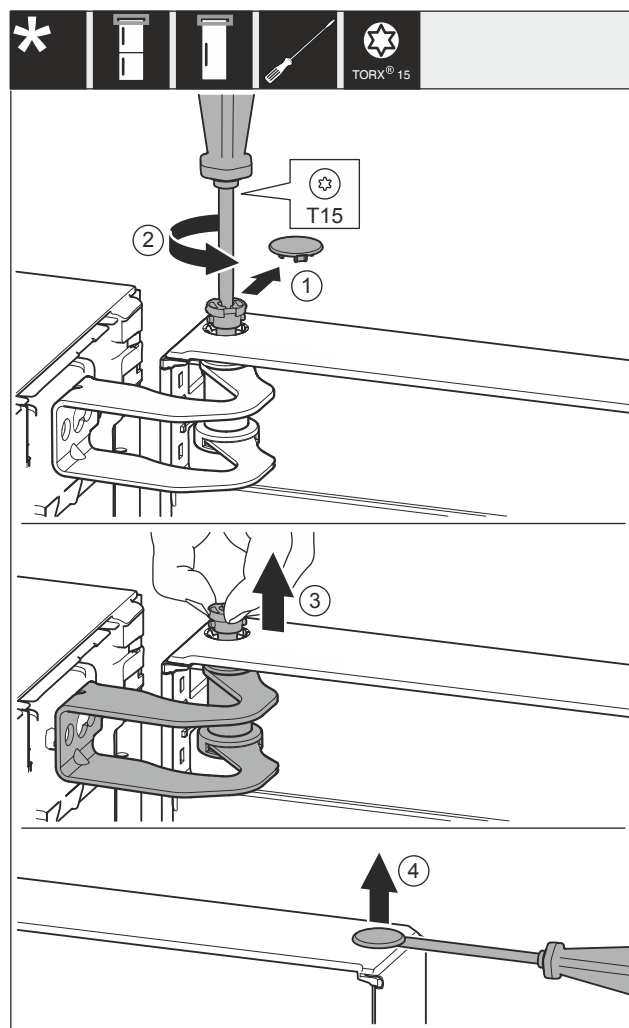

Fig. 9
- ▶ Carefully remove the cover Fig. 9 (1).
- ▶ Use screwdriver to loosen the bolts Fig. 9 (2) a little.
- ▶ Pull out the bolt Fig. 9 (3) with your fingers.
- ▶ Carefully lift and remove the cover Fig. 9 (4) with a screwdriver.